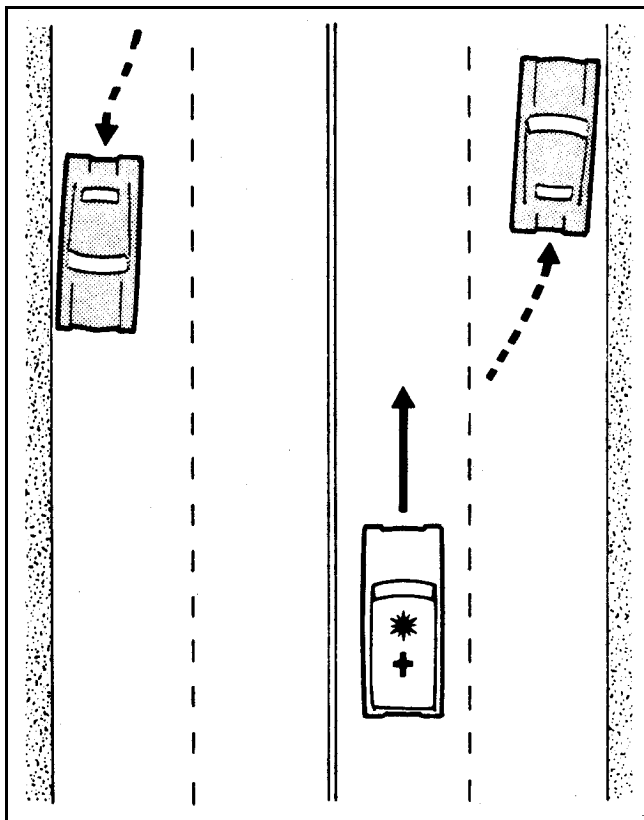
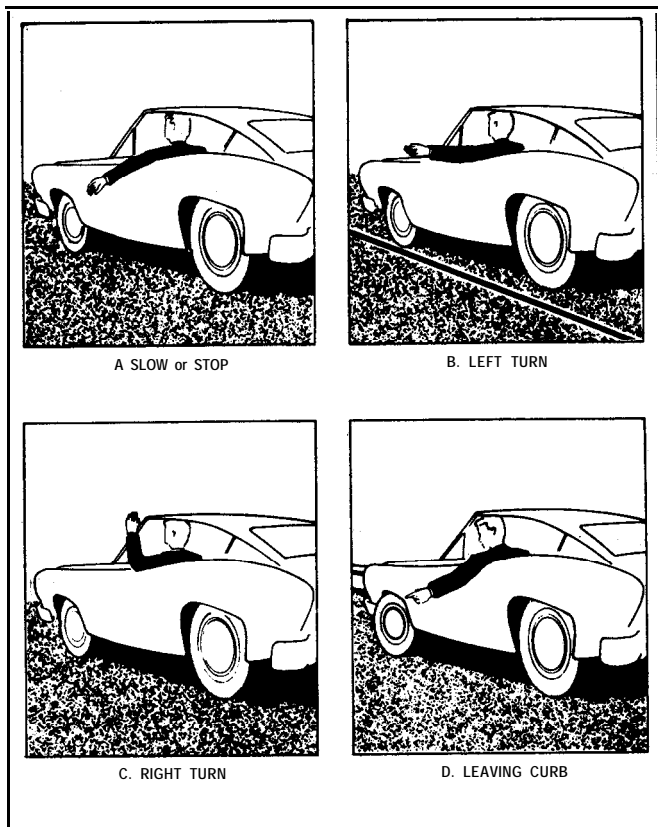

FIGURE 18
FIGURE 19
(4) Stop when a traffic signal is amber before your vehicle enters an intersection. If the signal turns amber after your vehicle enters the intersection, you are required to move through and clear the intersection.
(5) Stop for a flashing red light, a siren, or bell warning of emergency vehicles approaching from ahead, the back, or either side. Whenever possible, move your vehicle to the extreme right of the road to allow the maximum passing space and visibility for the driver of the emergency vehicle (Figure 18).
(6) Stop for the red flashing lights of a school bus, whether you are overtaking or meeting the bus, which has stopped or is stopping for passengers to board or leave the bus. (According to the State, this requirement varies; read the laws for the States in which you are driving.)
(7) Stop all vehicles that are carrying passengers or hazardous cargo at every railroad crossing. Look to both the right and left, and listen carefully before moving into the tracks; open the front door or window of the vehicle to improve your ability to hear an approaching train. Stop all vehicles at railroad crossings where there are no signal lights, bells, or automatic gates to warn of approaching trains. Where such lights or bells are installed, do not move the vehicle onto the tracks while any warning signal is operating. Although the crossing is cleared by the train which passed, another could be approaching but be hidden by the first train or a curve.
b. Signaling. Use arm or mechanical signals to warn other drivers and pedestrians of your intended actions (Figure 19). In many cases (such as when